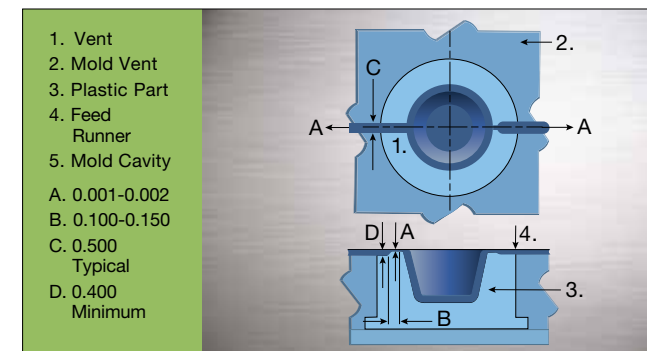

Figure 5: Mold Venting
**VENTS** Vent should be cut only after initial trials on the new tool have indicated necessary locations. A vent channel 6.4 to 12.7 mm (0.25 to 0.50 in.) wide by .03 mm (0.001 in.) deep is usually sufficient. See Figure 5.